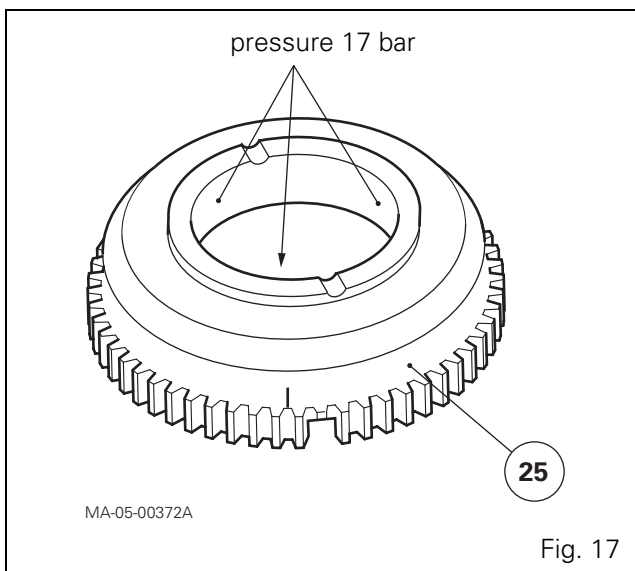
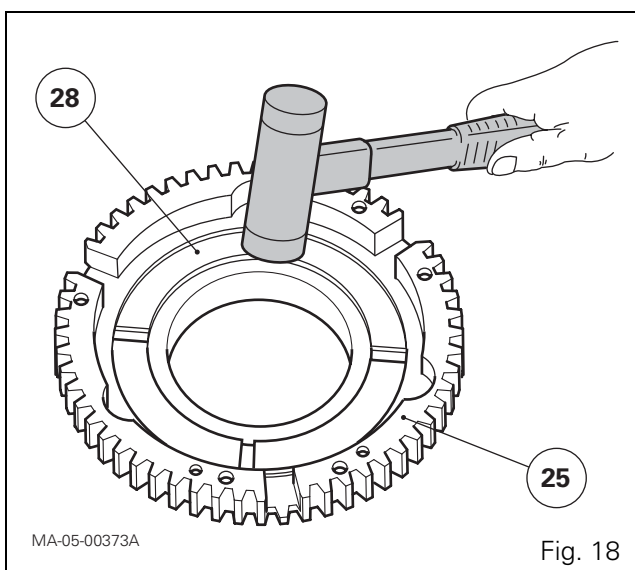

Fig. 17
Fig. 18
42. Make sure that the three holes of the 17-bar channel on the hydraulic cover plate (25) are not blocked (Fig. 17).
43. Fit the lubricated seals (26) and (29) and onto the piston (28).
46. Fit the piston (28) using a plastic hammer, gradually and alternately striking around the circumference of the piston (Fig. 18).